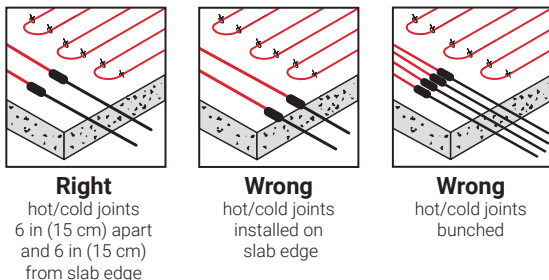

Figure 7: Positioning hot/cold joints
- Position hot/cold joints 6 in (15 cm) in from edge of heated areas and spaced at least 6 in (15 cm) apart from each other (do not bunch hot/cold joints – see Figure 7).
- For directly embedded heating cables, verify that the hot/cold joints are 6 in (15 cm) in from the edge of the heated area, are not bunched together, and spaced at least 6 in (15 cm) apart from each other (see Figure 7).